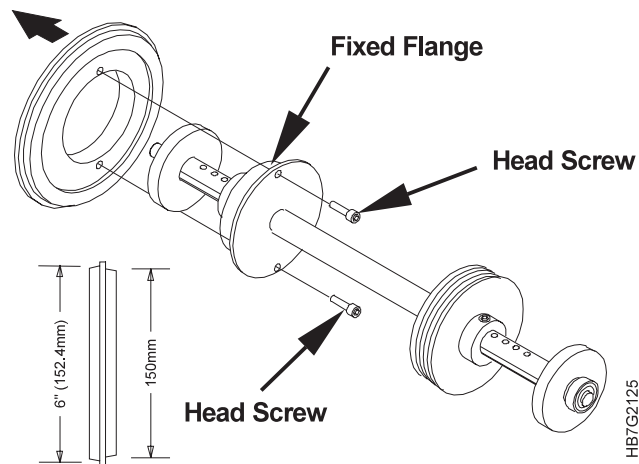

Figure 196. Removing the Fixed Flange
- 5 If the new core diameter is the same as the old roll, proceed to Step 7. If the diameter is different from the diameter of the roll used previously on this axle, remove the two head screws that attach the fixed flange to its base, remove the fixed flange from the axle, turn the flange around and mount it again with the side with the other core diameter facing the middle of the axle. Replace and tighten the screws, as shown in Figure 196.